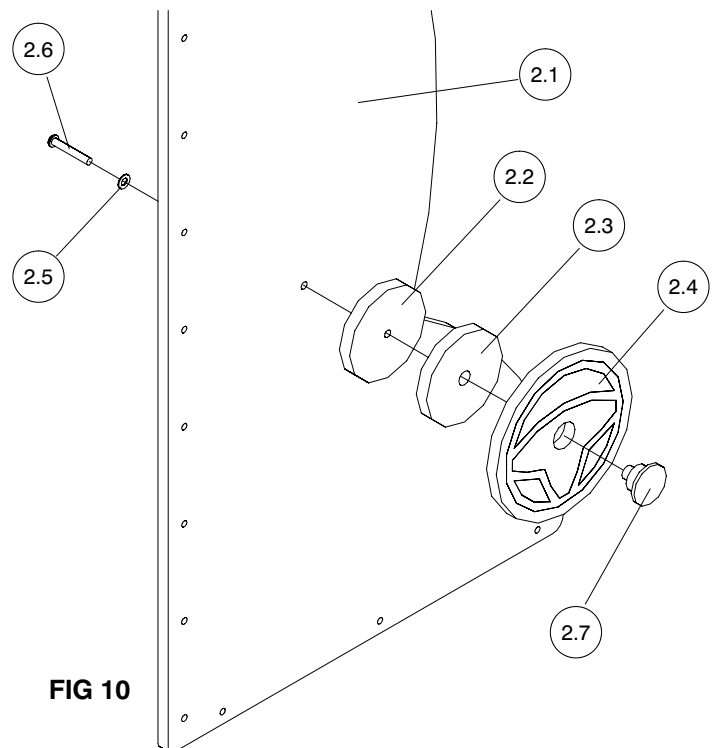

FIG 10
- i) Place M10 Torx bolt (2.6) through washer (2.5), panel (2.1), spacer No.1 (2.2), spacer No.2 (2.3) and steering wheel (2.4) and attach to spigot (2.7). Fully tighten to a torque of 20-25Nm. (Fig 10).